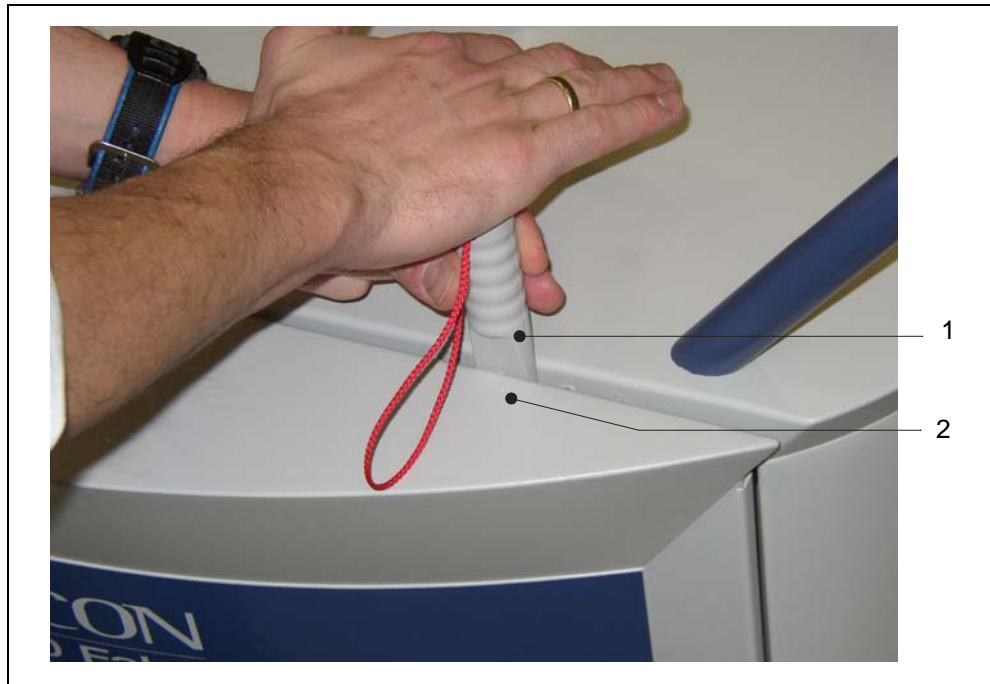

Fig. 9-1 Opening the UL5000
- Remove the side covers by using the wedge (Fig. 9-1). Push down the wedge to release the side covers.
- The location for the wedge is marked with two dot marks at the top side of the side covers (See Fig. 9-1/2).